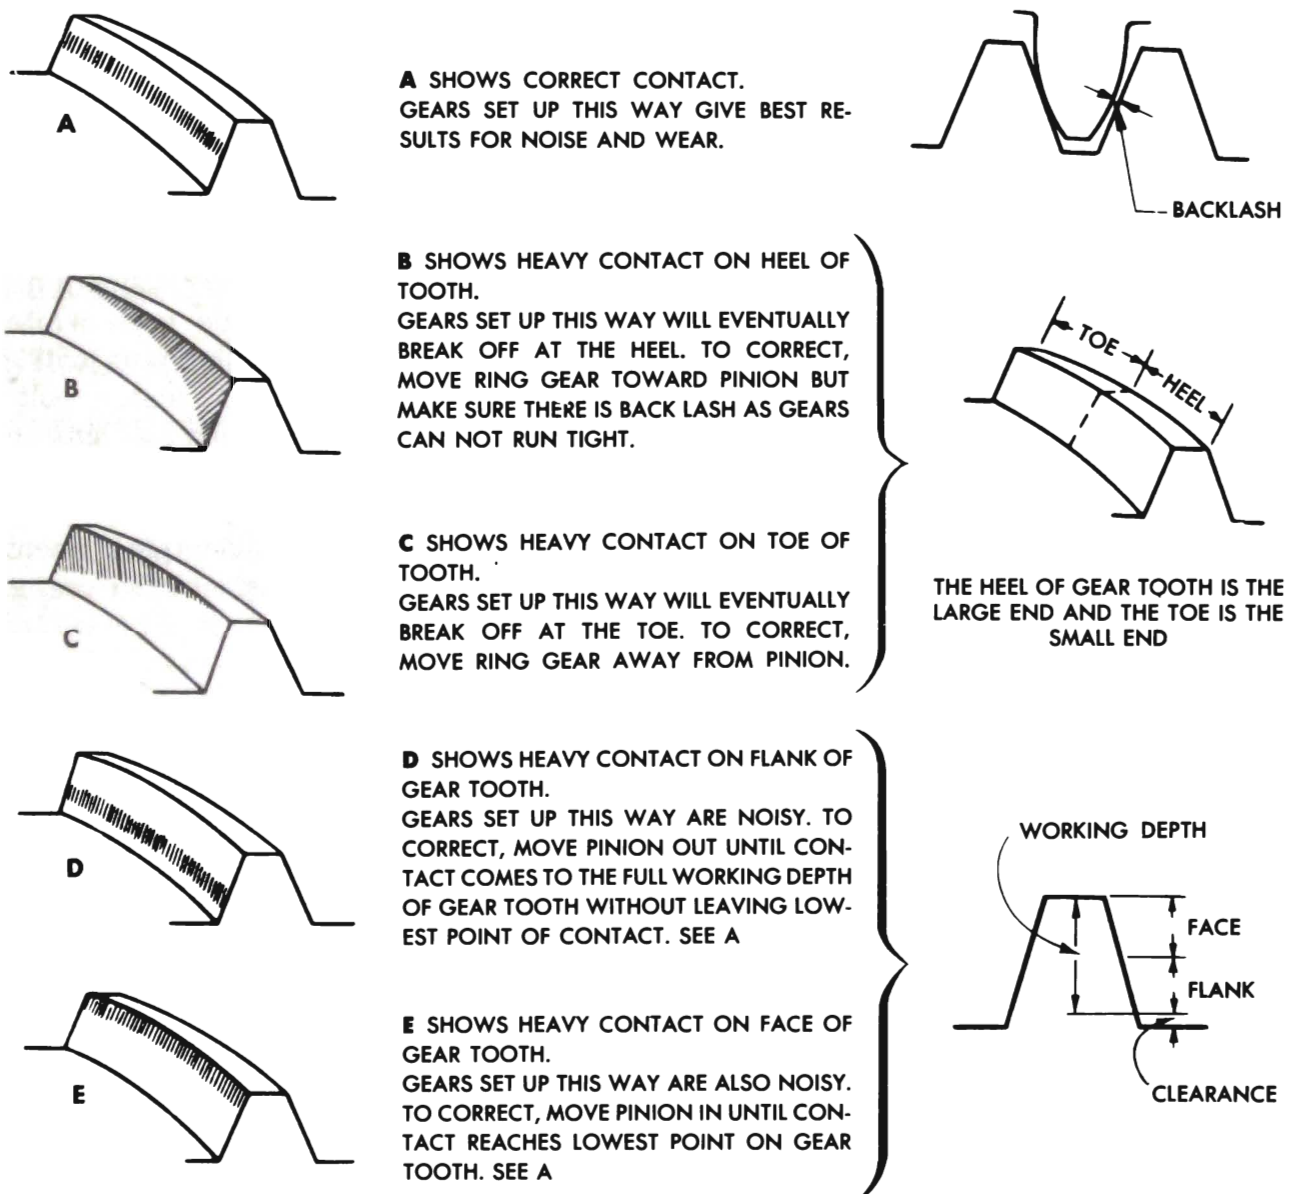

Figure 5-2—Gear Tooth Contact Corrections
5. Examine gear teeth for chips or scores and for proper gear tooth contact (par. 5-6 & fig. 5-2). Check ring gear lash with dial indicator (par. 5-23).
6. Compare marks produced on gear teeth with marks shown in views A through E in figure 5-2. Marks should be as shown in view A. If marks are as shown in views B, C, D, or
7. Gears marked as shown in views B, C, D, or E should be adjusted as indicated opposite these views in figure 5-2. Adjustment will be satisfactory in most cases where gears are comparatively new and not improperly worn or scored. If gears have been run long enough to wear the teeth appreciably, however, it is unlikely that adjustment will produce quiet operation.
9. After making the adjustment indicated, re-paint ring gear teeth and run gears again as described in step 5, above. Final marking should be as shown in view A, figure 5-2. When proper tooth contact is obtained, wipe lead from gears and carrier with cloth moistened with clean gasoline or kerosene. Wipe out housing with clean cloths.